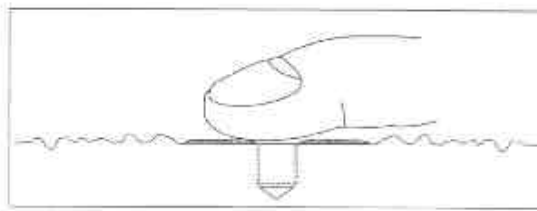

Figure 6. Mounting Surface Lubrication
STEP 2: Wipe clean the mounting surface and spread on a light film of grease, oil, or similar coupling fluid prior to installation. (figure 6)